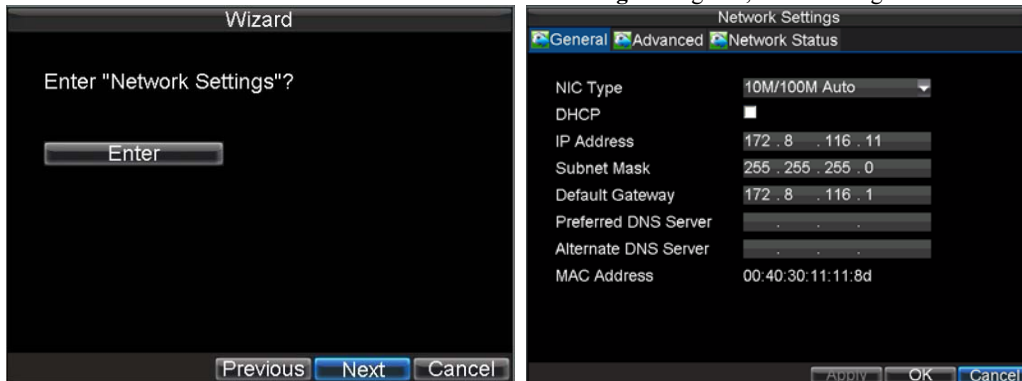

Figure 10. Network Settings
21. Click *Next* button to access the **Network Settings** dialog box, shown in Figure 10.